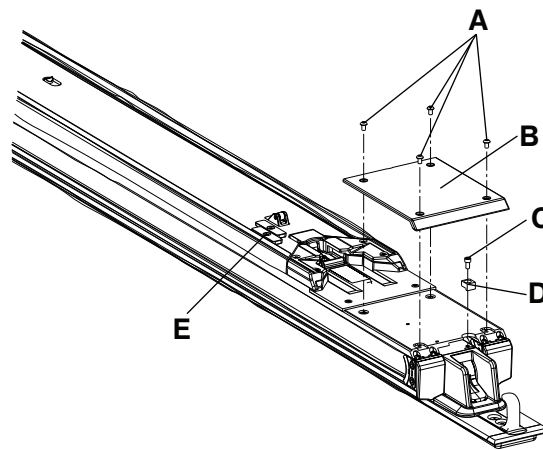

Figure 7 – Foot end transfer components
3. Using a T25 Torx driver, remove the four screws (A) that secure the foot end transfer wear pad (B) to the transfer extrusion (Figure 7). Save the screws.